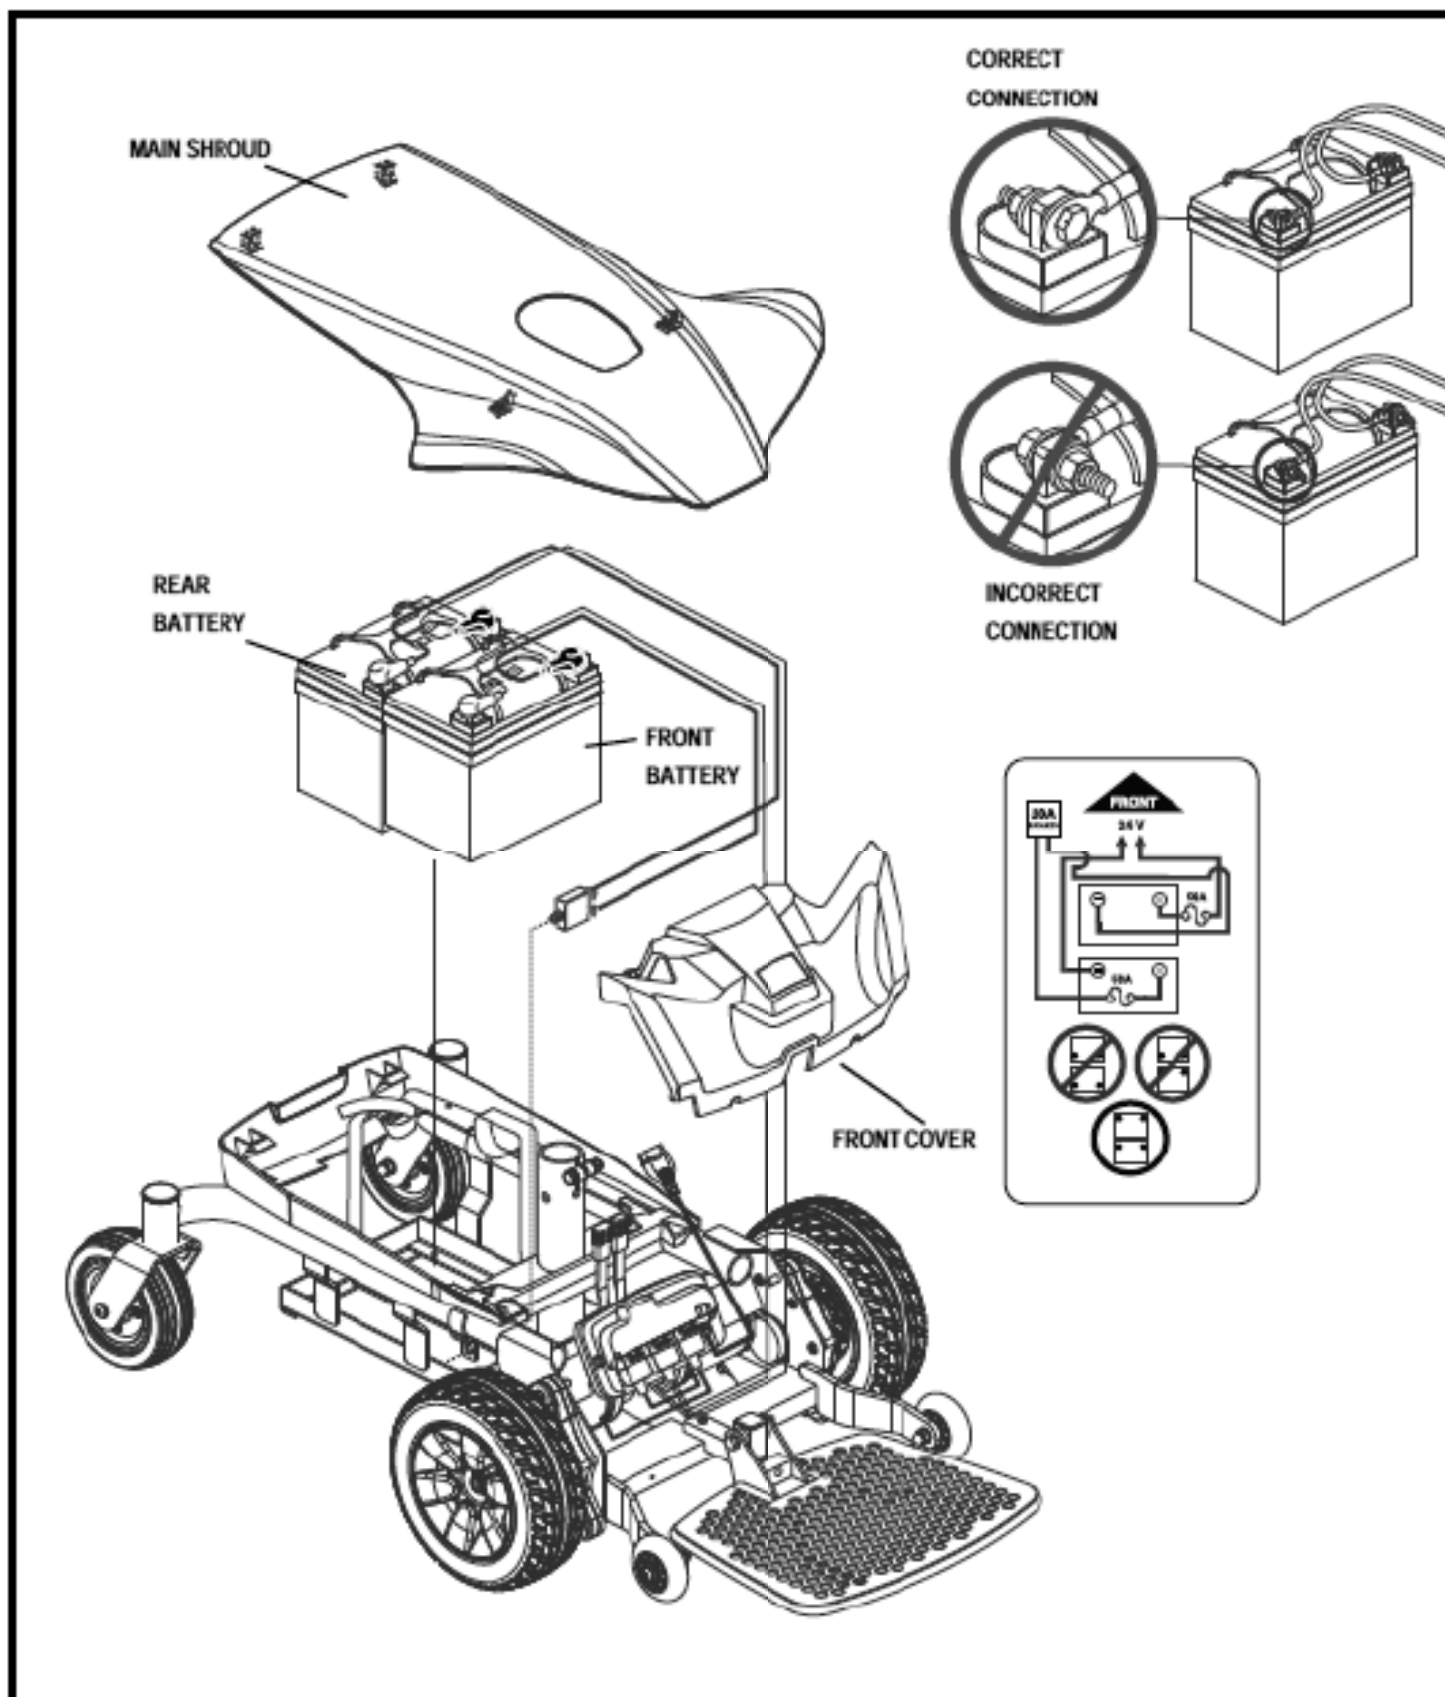

Figure 22. Battery Installation (Seat Removed for Clarity)
4. Remove the main shroud by lifting the rear of the main shroud until it disconnects from the body shroud. Once disconnected from the body shroud, slide the main shroud forward until the tabs are free from the body shroud. Lift the shroud up and over the seat post. See figure 22.
5. Unfasten the battery strap. See figure 22.
6. Disconnect the battery cables from the battery terminals of each battery. See figure 22.
8. Install new batteries into the battery tray. Make sure the terminals of each battery are facing the front of the power chair. See figure 22.
9. Connect the front battery cable to the front battery terminals according to the battery wiring diagram. Make sure that the battery terminal hardware is facing the correct direction. See figure 22.
10. Connect the rear battery cable to the rear battery terminals according to the battery wiring diagram. Make sure that the battery terminal hardware is facing the correct direction. See figure 22.